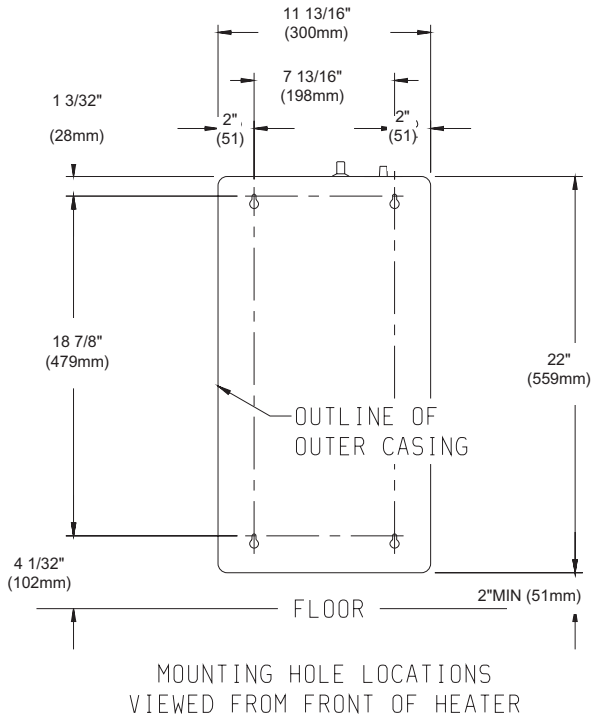

Figure 7 (SR-10T)
Refer to Figures 7, 8 and 9 for measurements in order to locate (4) mounting holes on wall. Figures 7, 8 and 9 are the **front** views of the heaters.